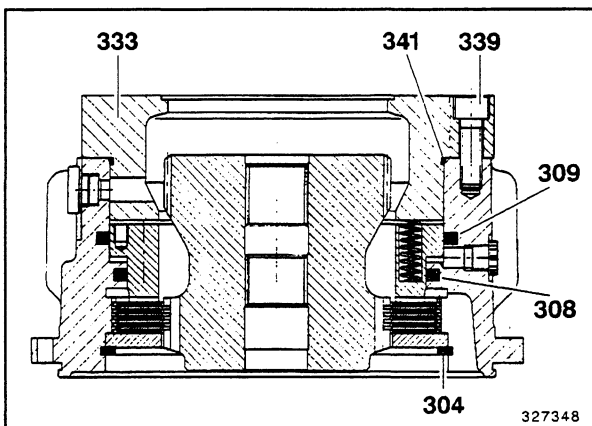

Fig. 4
- Re-install the rotor locking element (Fig. 4).